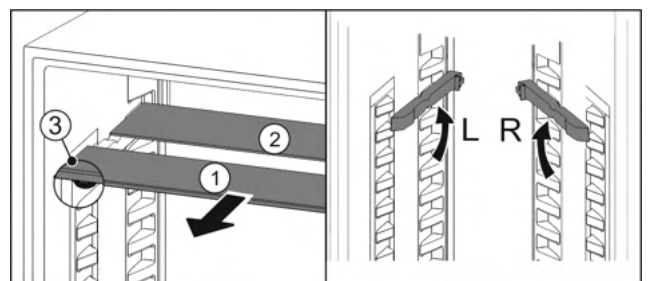

Fig. 125
- ▶ Pull the glass panels out Fig. 125 (1) from the front, one at a time.
- ▶ The glass panel Fig. 125 (1) with the trim strip is at the front.
- ▶ The stops Fig. 125 (3) point downward.